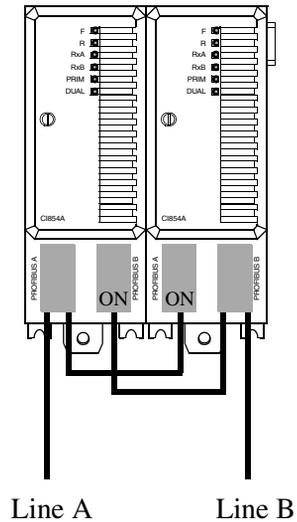

Figure 39. Connection of Redundant PROFIBUS DP (CI854A)
6. If the CI854A is installed in a redundant configuration connect the PROFIBUS DP cable to primary and backup module. Do it like described in Figure 39 on page 117. Switch the termination ON for the interface on primary or backup module that is at the end of the line.